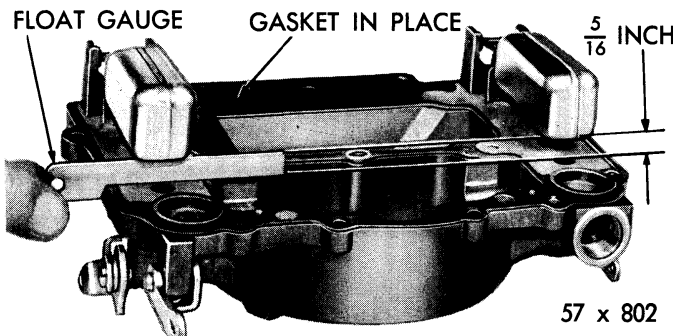

Figure 98—Checking Float Height
**Float Level Setting**—With the air horn inverted, gasket in place, and the float needle seated, slide the float gauge or correct size drill between the top of the float, at the outer end, and the air horn gasket. See Figure 98. If an adjustment is required, bend the float arm. The float should just touch the gauge. Before float settings can be made, floats must be identified. Floats with smooth sides are part number 21-188S and floats with ribbed sides are part number 21-179S. Refer to Data and Specifications for specified settings according to carburetor number and float used.